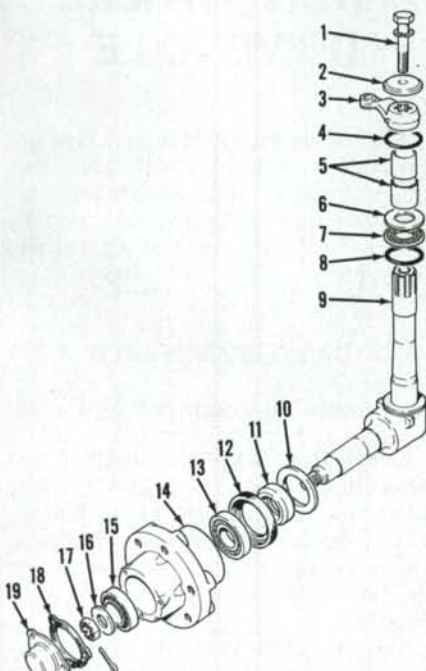

Fig. 1—Exploded view of typical front spindle assembly showing component parts and their relative positions.
1. A typical front wheel spindle, wheel hub and bearing assembly are shown in Fig. 1.
To adjust wheel bearings, tighten slotted nut (17—Fig. 1) to 95 N·m (70 ft.-lbs.) torque while turning the wheel. Loosen the nut, then retighten to 40 N·m (30 ft.-lbs.) torque while turning the wheel. Make certain wheel turns freely. Loosen nut, if necessary, to align hole for cotter pin, then install a new pin.
To remove spindle (9—Fig. 1), support front of tractor and remove wheel from
**NOTE: If steering arm (3) is tight on spindle (9), reinstall cap screw (1) minus washer (2) and rap head of cap screw sharply to loosen steering arm. Care should be taken not to damage cap screw or threads in spindle.**
Remove spindle and upper "O" ring (4—Fig. 1). Remove thrust washer (6) on all models and thrust bearing (7) on 1490, 1494, 1594 and 1690 models. On all models remove lower "O" ring (8).
Reinstall by reversing removal procedure making certain thrust bearing (7—Fig. 1) and thrust washer (6) are in proper sequence on 1490, 1494, 1594 and 1690 models. On all models, tighten steering arm retaining cap screw (11) to 163 N·m (120 ft.-lbs.) torque.